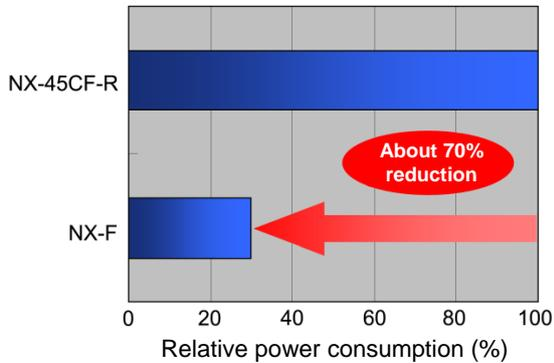

Fig. 4 Reduction in electric power consumption
Electricity consumption accounts for the majority of the running cost of a laser processing system. The NX-F is equipped with low-loss Mitsubishi numerical control (NC), drive units, and high-efficiency fiber laser oscillator, and has successfully reduced the electric power consumption by about 70%, as shown in Fig. 4.